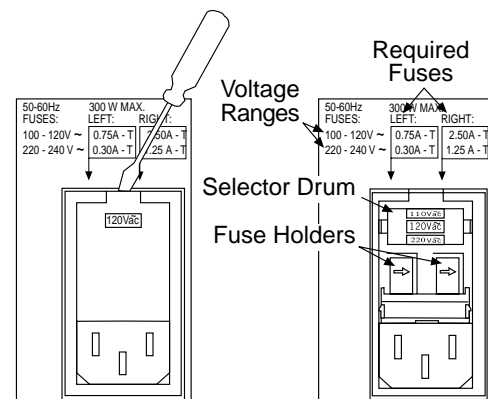

Figure 48. Power Input Module
1. As shown in Figure 48, place the flat side of a flat bladed screwdriver parallel to the rear of the Controller and behind the small tab at the top of the power input module, and twist the screwdriver slowly but firmly to pop the module open.